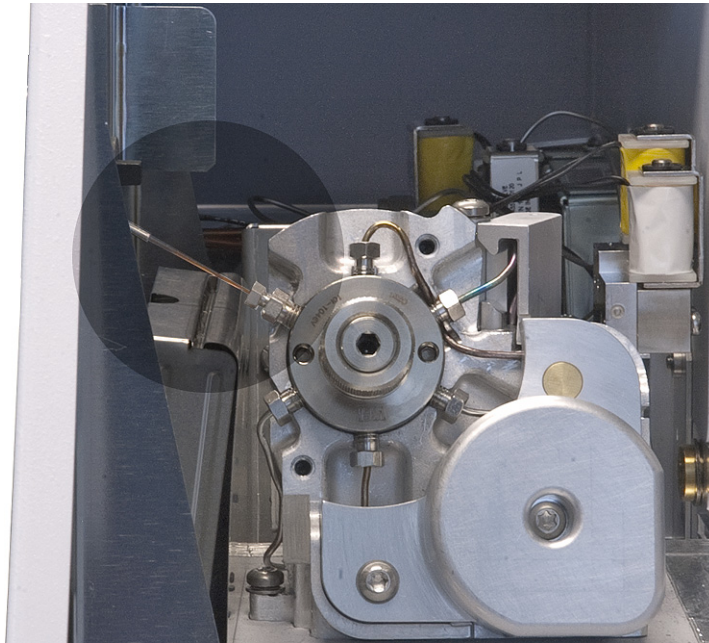

Figure 14 Transfer line installed into 6 port valve
- 15** Gently slide the tubing into the internal reducer until it bottoms. Tighten the 3/16-inch nut finger tight, then an additional 1/4-turn. Test the connection by gently pulling on the transfer line. The transfer line should not slide out of the newly-made fittings. See Figure 14.